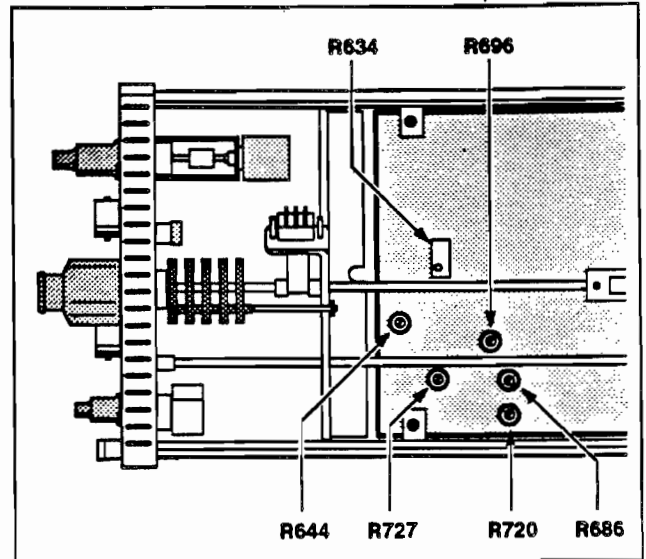

Fig. 5-19a. Comparison adjustment locations (SN B250000 and up.)
e. ADJUST - The $+V_c$ Zero control R696 (refer to Fig 5-19a) to set the trace 1 division below midscreen. Verify that the voltmeter measures approximately -1.00mV.